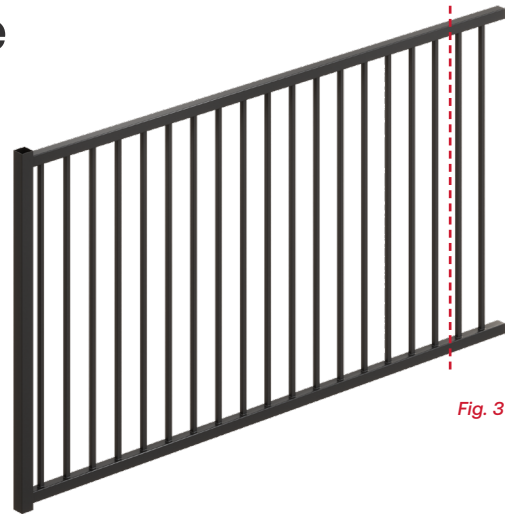

Fig. 3
2. Cut the rail to your required marked length. *Fig. 3*